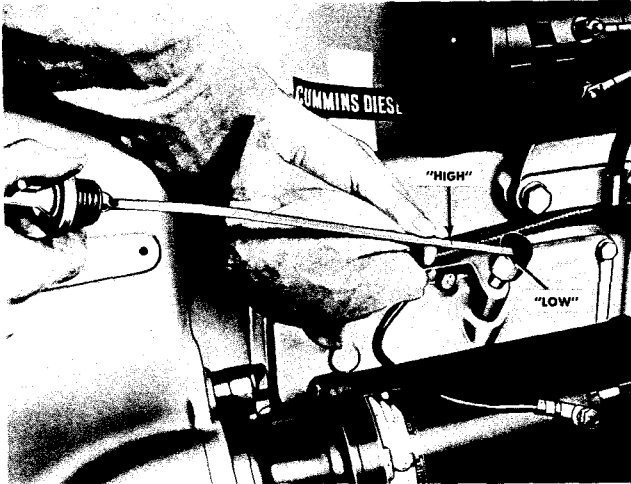

Fig. 2-2. Checking engine oil level
2. Keep oil level as near the high mark as possible. Fig. 2-2.